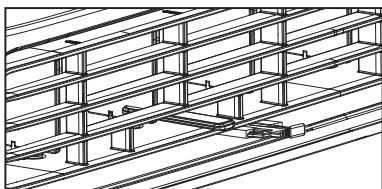

Figure 1 (VENT CLOSED)
1. Recirculate inside air - Vent Closed (see Fig. 1)